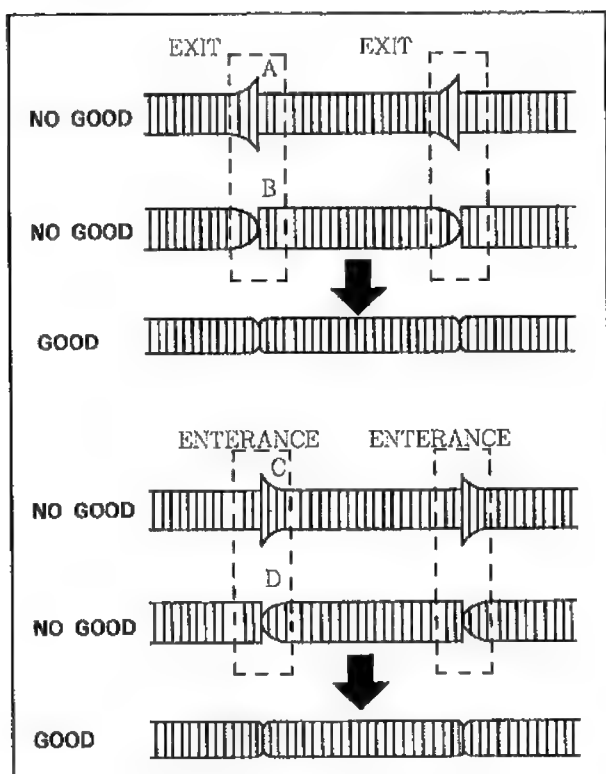

Fig.M18
4. If the RF envelope appears like example "A" or "B" in Fig.M18 then adjustment of the tape guide post (P3:Exit) is necessary.
5. Adjust the P3 post with the post adjustment screwdriver so that the RF envelope waveform at the exit portion becomes flat as shown in Fig.M18.
6. If the RF envelope appears like example "C" or "D" in Fig.M18 then adjustment of the tape guide post (P2:Entrance) is necessary.
7. Adjust the P2 post with the post adjustment screwdriver so that the RF envelope waveform at the entrance portion becomes flat as shown in Fig.M18.